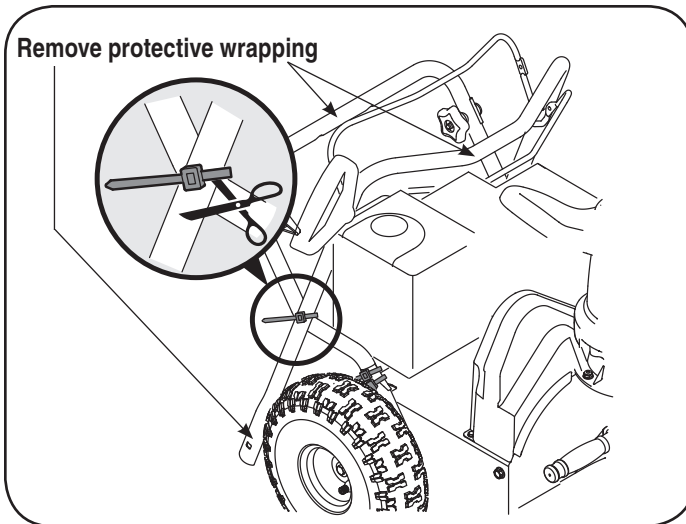

Figure 1
1. If applicable, remove cable tie securing upper handle to lower handle for shipping purposes. Remove all protective plastic wrapping from handles as shown in Figure 1.